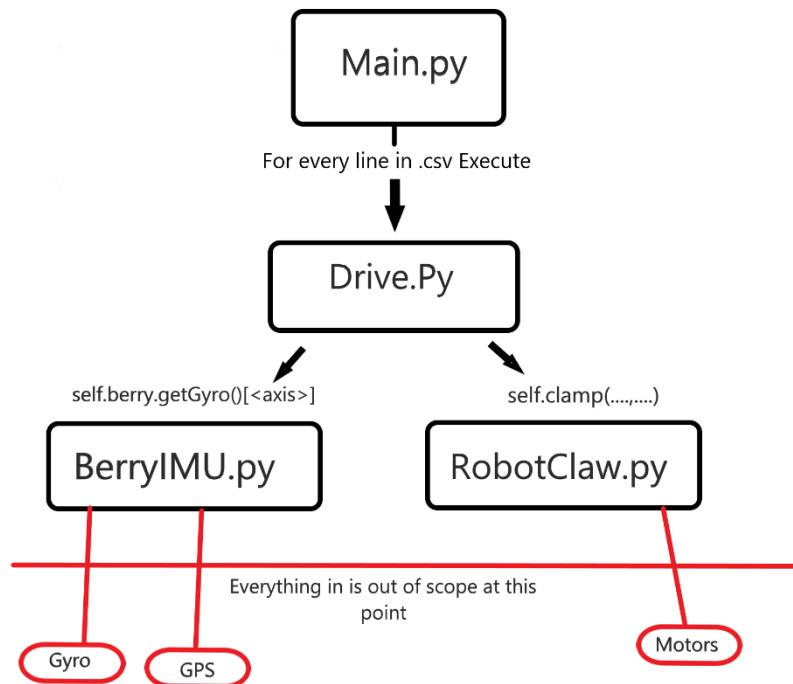

Figure 2: Abstract of Program Design
- Figure 2. Abstract Program Design
of the Mark2.7. The base components of the Mark2.7 that control functionality are the motors and GNSS and GYRO sensors. The first phase of development focused on creating python files of basic motor function and sensor function. The files Motor.py, GNSS.py, and GYRO.py were created. As this project was done as part of a team, the focus of the paper will be on motor function. In Motor.py, two main things are controlled, the servo motors and the rotary encoders (see appendix A), that are each assigned to pins on the Arduino board. The servo motors are used for moving and stopping, and the rotary encoders convert motion into some electrical signal and are used for distance tracking on the Mark2.7. Below, Figure 2 shows the abstract program design created before development began.